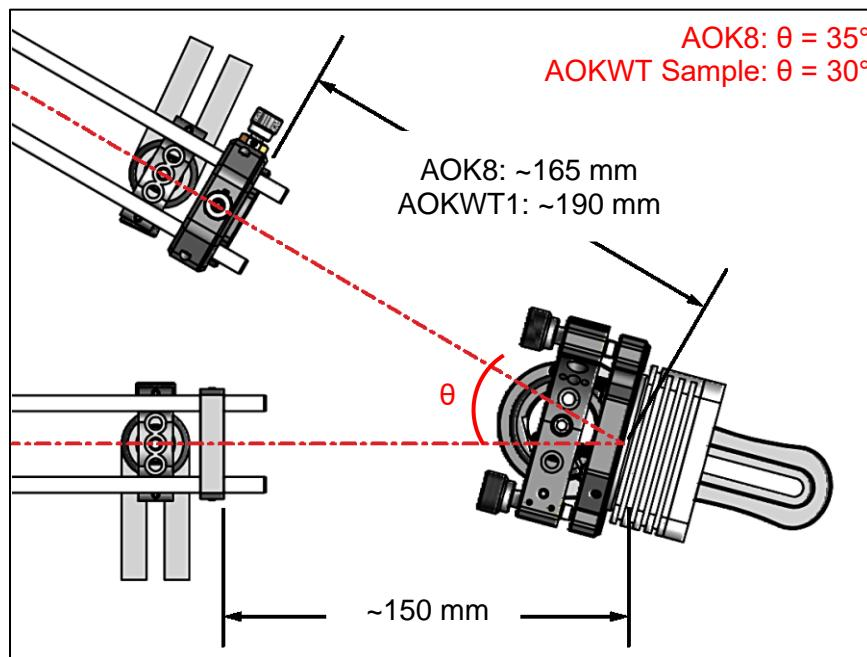
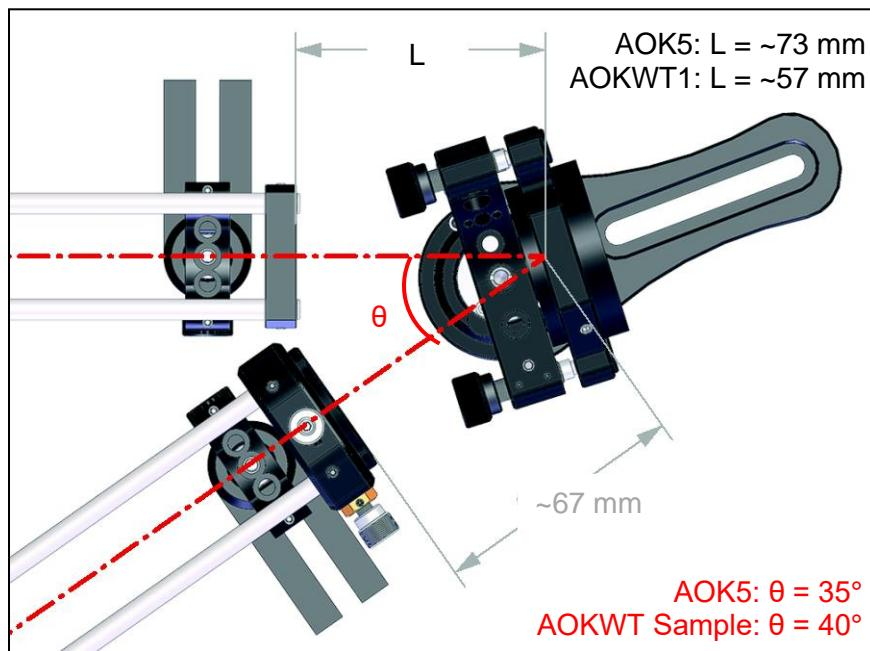

Figure 26 **DMH40/DMP40 Deformable Mirror Alignment**
Figure 27 **DM140A Deformable Mirror Alignment**
- 2) Position the DM subassembly such that the DM mirror surface is spaced according to the kit and the type of mirror and lens relays being used. The DMH40/DMP40 spacing is shown in Figure 26 below. The DM140A spacing is shown in Figure 27 below. Note: if assembling an AOKWT Sample kit in the standard configuration, the DMH40/DMP40 is first.
- 2) Position the second DM subassembly such that the DM mirror surface is spaced according to the type of mirror and lens relays being used, commonly DM140A. The DM140A spacing is shown in Figure 27.